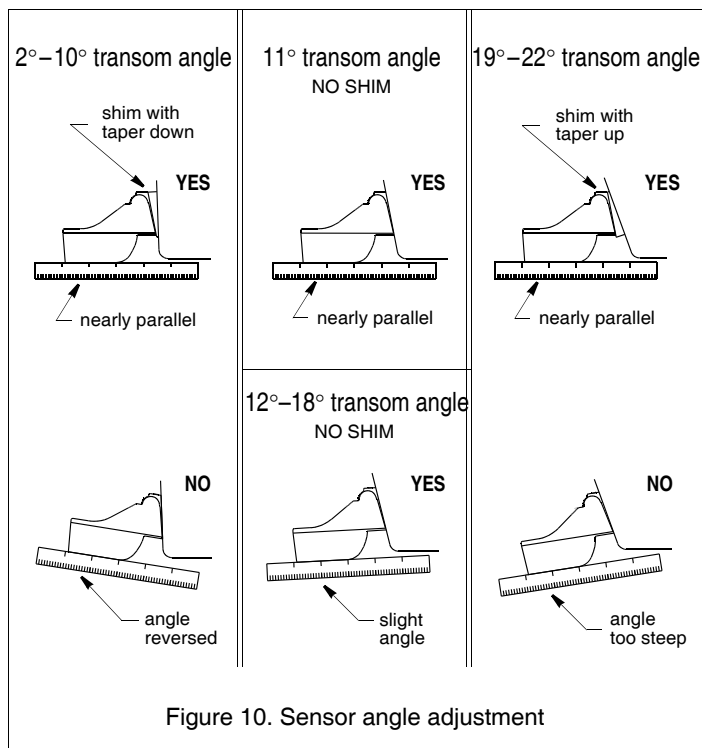

Figure 10. Sensor angle adjustment
1. Using a straight edge, sight the underside of the sensor relative to the underside of the hull (see Figure 10). The stern of the sensor should be 1–3mm (1/16–1/8") below the bow of the sensor or parallel to the bottom of the hull.
- a. Increase the sensor's angle in the water. Review "Compensating for the Transom Angle—Shim" and see Figure 10.